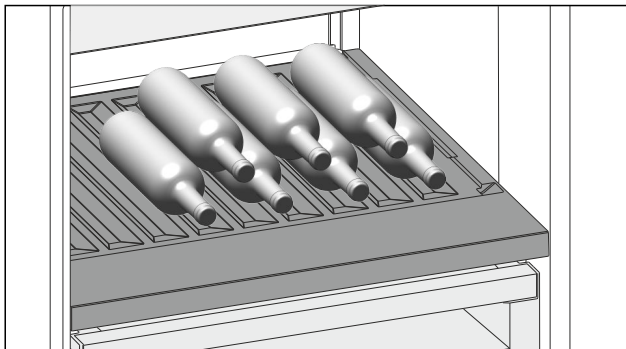

Fig. 139
- Place bottles in the back row with their bases against the back wall. (see Fig. 139)